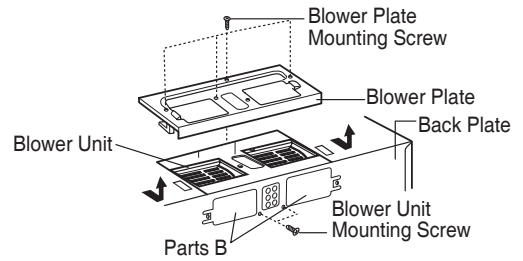

Figure 20
1. Remove one blower unit mounting screw and one or two blower plate screw(s). Remove the blower plate from cabinet. See Figure 20.